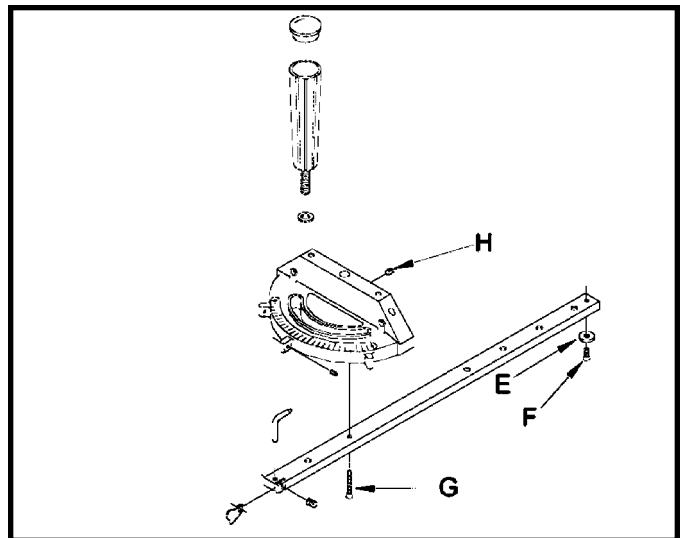

Fig. 49
The miter gage is equipped with a special washer (E) Fig. 49, and flat head screw (F), which are to be assembled to the end of the miter gage bar.